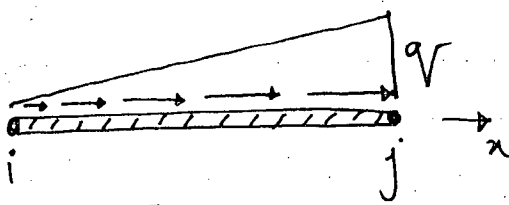

Fig. 7
- (b) A jet grout pile as shown in Fig. 7 is subjected to concentrated loads P_1 and P_2 at nodes 1 and 2 and surface tractions T_1 and T_2 in elements 1 and 2. Determine stresses in element 1 and 2. Given: $E = 2.5 \times 10^5$ N/mm² and $\rho = 16$ kg/m³, $P_1 = 400$ kN, $P_2 = 100$ kN, $T_1 = 20$ N/mm² and $T_2 = 80$ N/mm². (12)
4. (a) A two noded bar element shown in Fig. 7 is subjected to a triangularly varying axial load with intensity zero at the i-node and maximum intensity q at the j-node. Determine the nodal force vector. (8 1/3)